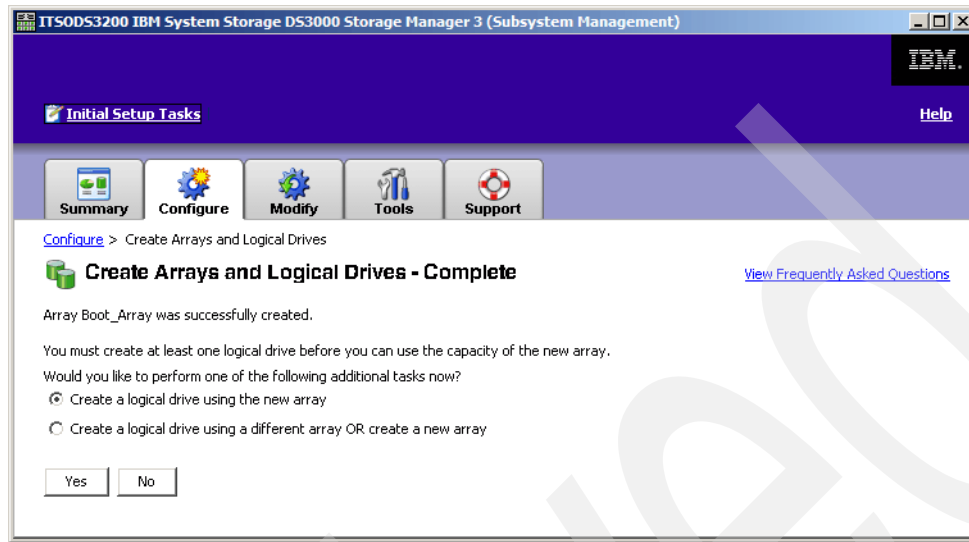

Figure 20-21 Create logical drive
6. A confirmation appears, as shown in Figure 20-21. Select the **Create a logical drive using the new array** radio button to create the new logical drive. Click **Yes**.